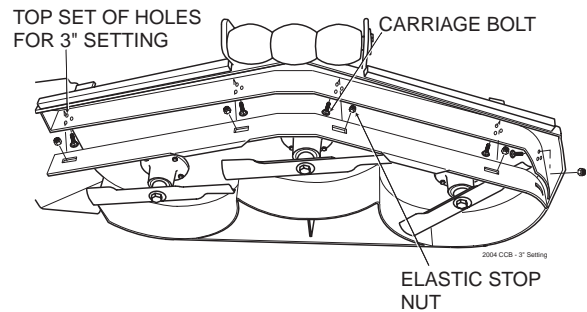

Figure 10. 3" Custom-Cut Baffle Position
- A. 3" Position - baffle is installed using the top set of holes on the front baffle welded inside the cutter deck. (See Figure 10). The Advantage cutter deck will deliver the best quality-of-cut in very tall, wiry, tough to cut grass.
2. Move the Custom-Cut Baffle to desired position. (See Figures 10 through 12 for position)
3. Reinstall the mounting hardware as shown. (See Figures 10 through 12). Torque hardware to 39ft.lbs.